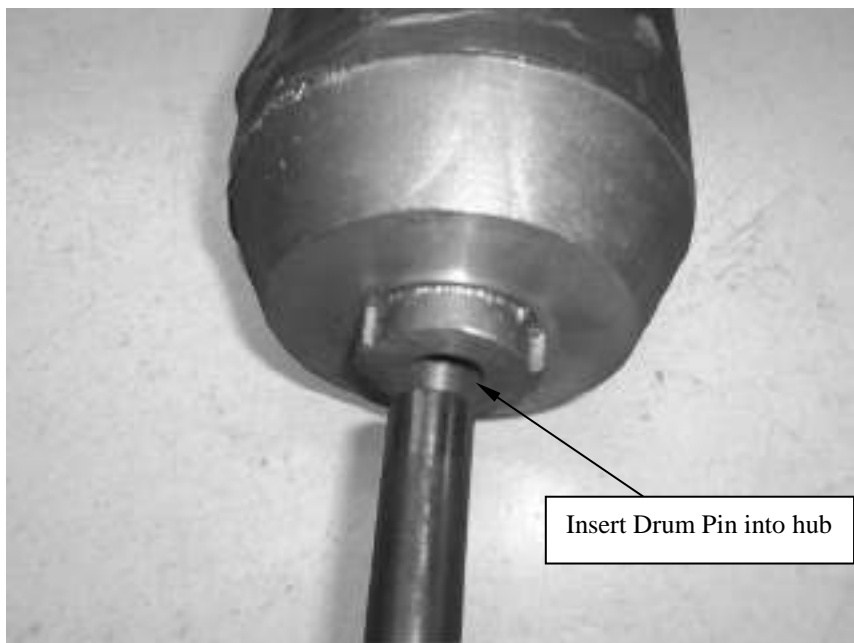

Fig 4
- 5. Secure the Pin into the hub by tightening down the 2 set screws in the hub with a 3/32" (2mm) hex-head wrench. (Fig 4)